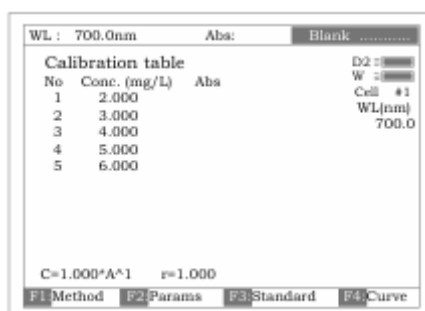

Fig.32
- 3.3.1 Enter standard concentrations of samples by pressing the Numeric keypad followed by **ENTER**. Press **【↵】** or **【↵】** to modify the inputted data (Fig31). Press **【ESC/STOP】** to finish inputting and to exit (Fig 32).
- 3.3.2 Push the blank cuvette into the Reference Light Path and Main Light Path, press **【0Abs/%100T】** and the instrument will step to the wavelength and blank. See Fig 32.